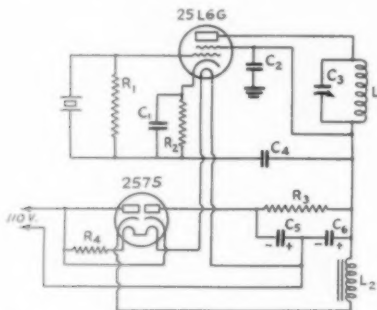

FIG. 2—LINE-POWERED BEAM CRYSTAL OSCILLATOR
J. B. Dow² except that he used chokes in the filament circuit. Unless these chokes have a capacitive reactance for the generated frequency, which would require rather large windings, the phase would be affected somewhat as in the Hartley circuit. A practical example of the application of these principles is shown in Fig. 2. This particular arrangement is one which I used for the last month I was on the air before coming to this ham paradise (the U. S. A.), and which brought me all T8X and T9X reports on 3.5 and 7 Mc.
sion that although this tube is an excellent oscillator, it appears to have greater power output than is necessary for many amateur applications. I have therefore been experimenting with the layout of Fig. 2. A Type 25L6G tube is used as a crystal oscillator, this tube being of the beam power type, but with lower ratings than the 6L6G, and intended for use in a.c.d.c. receivers. As a rectifier I use a Type 25Z5 in a voltage-doubling circuit; the power supply delivers approximately 150 volts at 70 milliamperes. The output is more than enough to drive one or two 6L6G's as doublers or buffers. The layout has the advantage of being well adapted to a small space, since I had room to spare when the entire set-up was mounted on a 12-by 4-inch base-board.